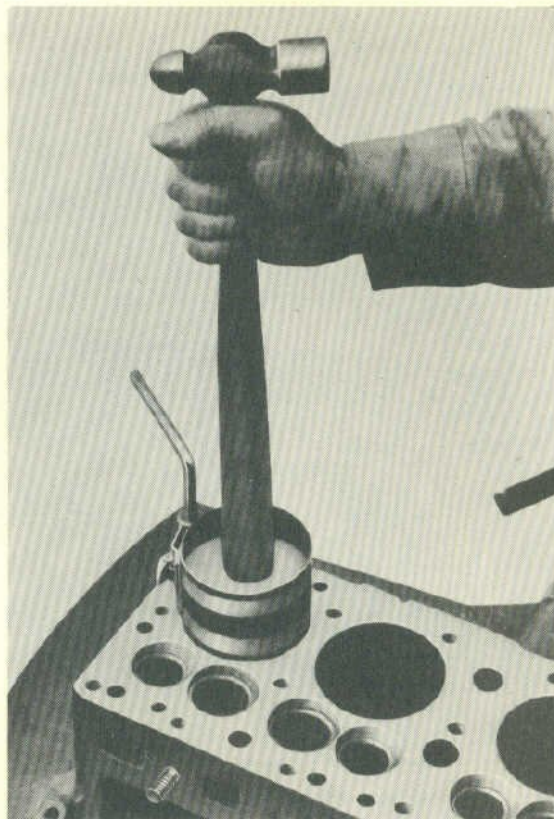

Fig. 9
- Step 4—With the ring compressor attached as shown in Figure 9, tap the piston into position. Be sure that the crankshaft is in the proper position.